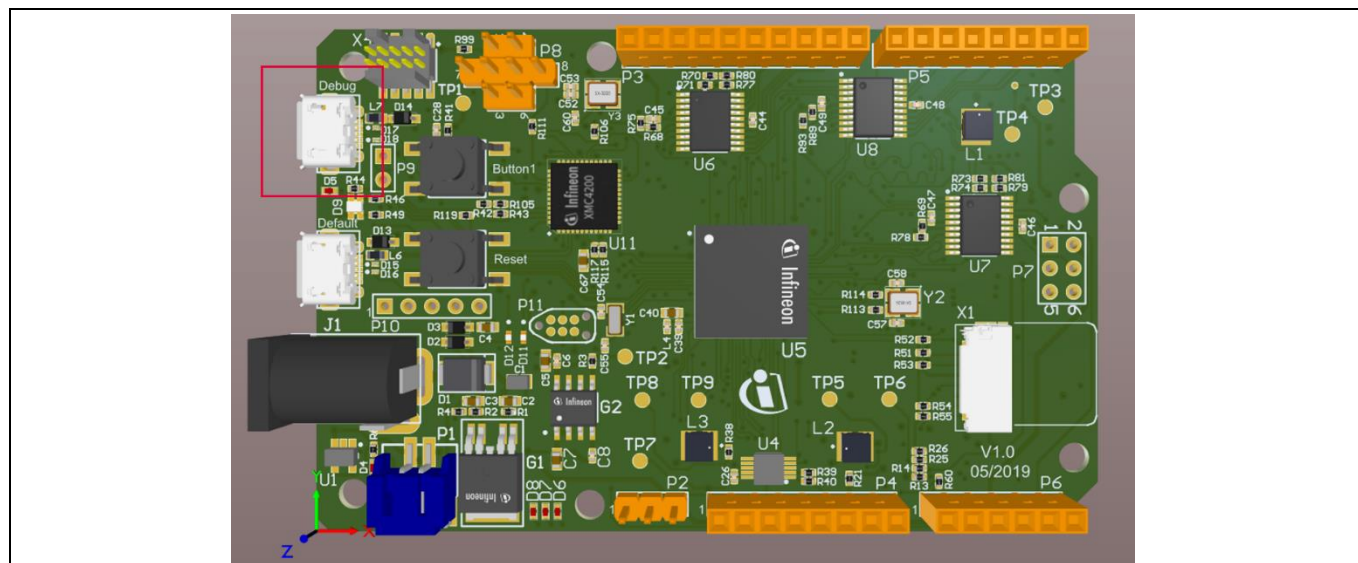

Figure 21 Connect USB cable to debug port
5. Connect the Radar Baseboard XMC4700 to the PC via a USB cable onto the "Debug" USB port (Figure 21).